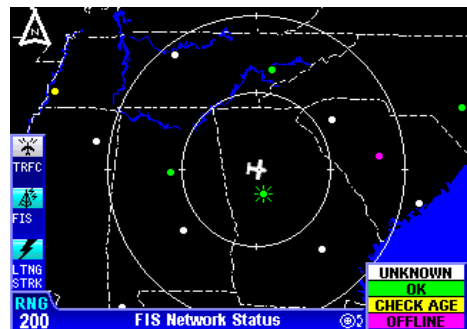

Figure 2-46
1. Press the **WX Function Select Key** until the FIS Graphics Page is displayed. If necessary, turn the Rotary Knob to obtain the FIS Network Status display similar to Figure 2-46. **FIS Network Status** will be displayed at the bottom of the display.